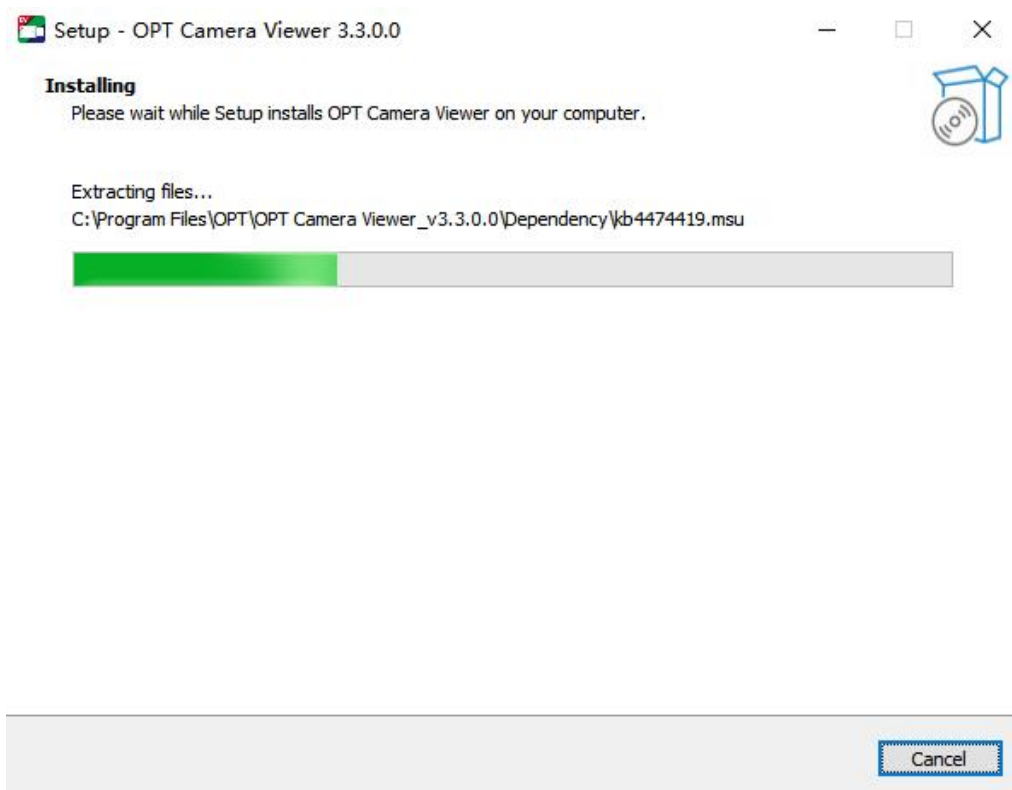

Figure 3-4 Installation window
Step 5 Enter the installation window as shown in Figure 3-4 and wait for installation.